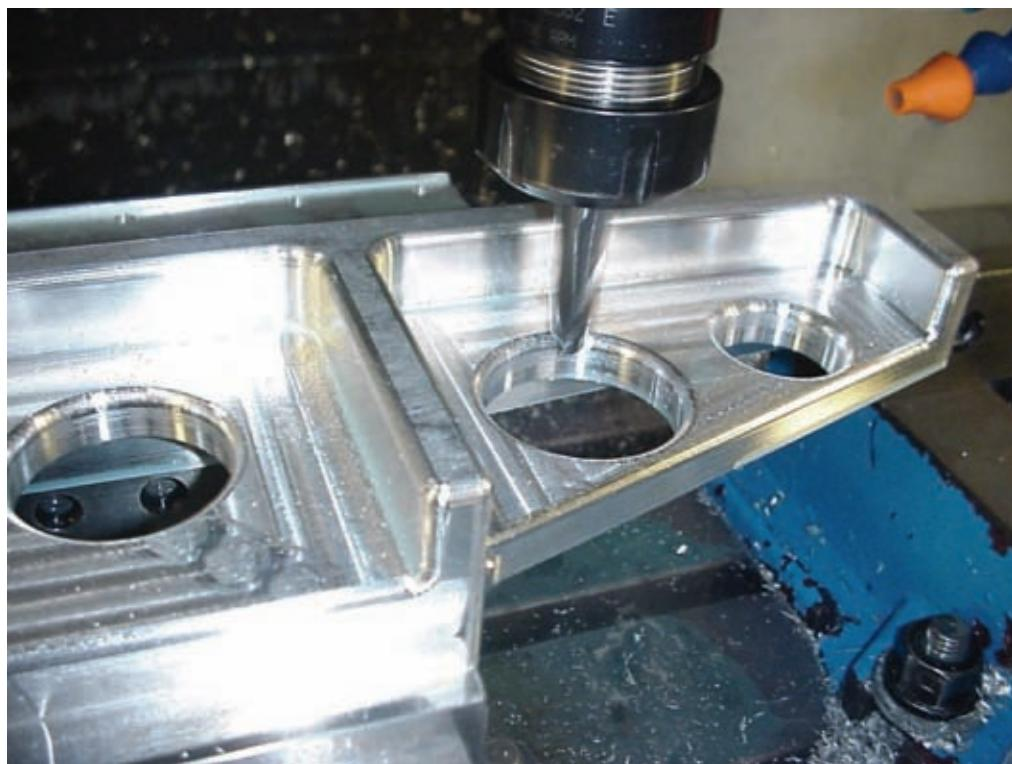

Figure 4-6 A ball nose end mill is shown cutting an edge radius around a hole using the 3D method.
5. Cut chamfers and edge radii using the 3D method. (see Fig. 4-6)